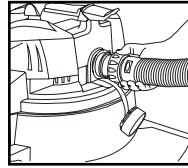

FIGURE 30
49. Your vacuum can be used as a powerful blower. To use your unit as a blower, unscrew blower port cover located on the backside of the tank cover. Clear hose of any obstructions. Insert machine hose end with locking nut into blower port and tighten locking-nut. **FIGURE 30.** Do not over-tighten. Caution should be used when using as a blower due to the powerful force of air when using certain attachments.